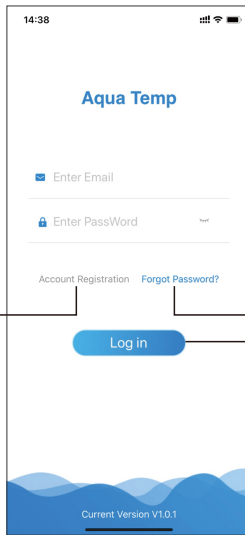
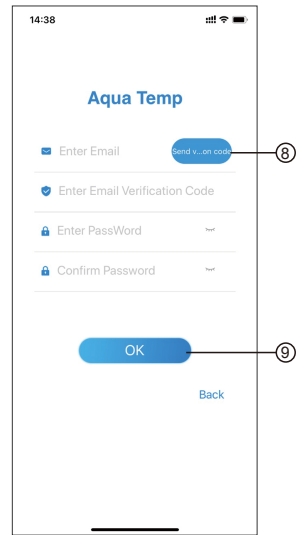

Fig.1 Login interface
Fig.3 Forgot Password interface
1. Account Registration: To register an account, click ① (Fig.1) to jump to the Account Registration interface, fill in the relevant information and click ② to receive verification Code, while completed the application information, click ③ to read the details of the Privacy Policy, then click ④ to agree, and click ⑤, registration is done.
2. Log in: Follow the instructions on the page(Fig.1), enter your registered email address And password, click ⑥ and jump to device list;
3. Forgot Password: While forget your password, click ⑦ (Fig.1), jump to the Forgot Password interface (Fig.3). Follow the instructions on the page, fill in the relevant Informations, click ⑧ to receive verification code from your mailbox, click ⑨ to confirm And password reset is done.